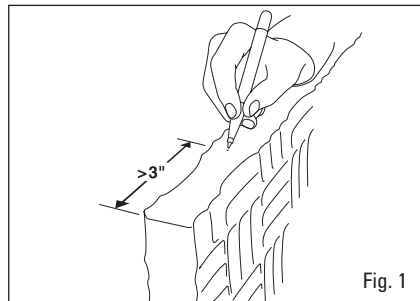

Fig. 1
1. Mark a dot at least 3" in from each edge of the baffle and centered on the width of the baffle. Optimal placement is between 4" and 8" when hung horizontally. See Figure 1.